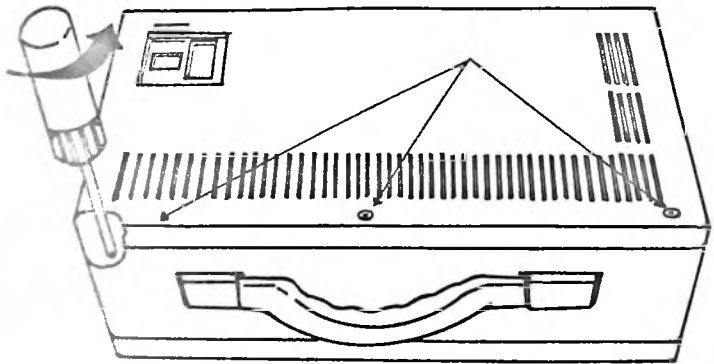
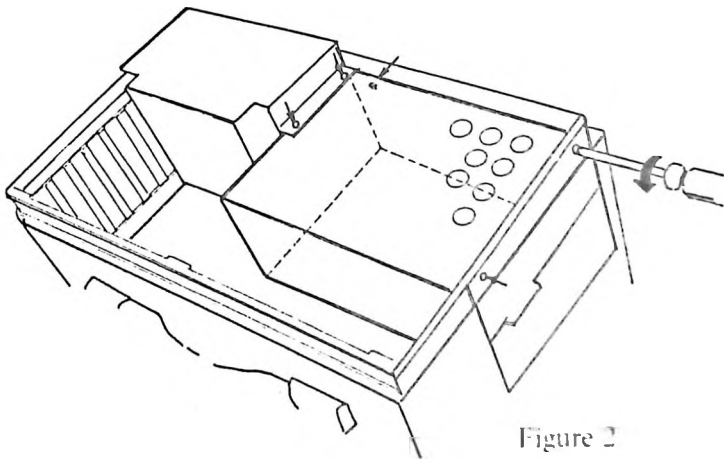

Figure 1
Figure 2
Put whole unit on a clean, flat surface with back cover facing up. Using a Philips-Head screwdriver unscrew the three screws on back cover. (fig. 1) Remove back cover from main unit. Unscrew and take out the LCD display card if it screw in the cabinet. Then unscrew all screws (5) holding drive bracket in place. Now remove the plastic hold that is at edge of drive slot and then slide drive mounting bracket out. (fig. 2)